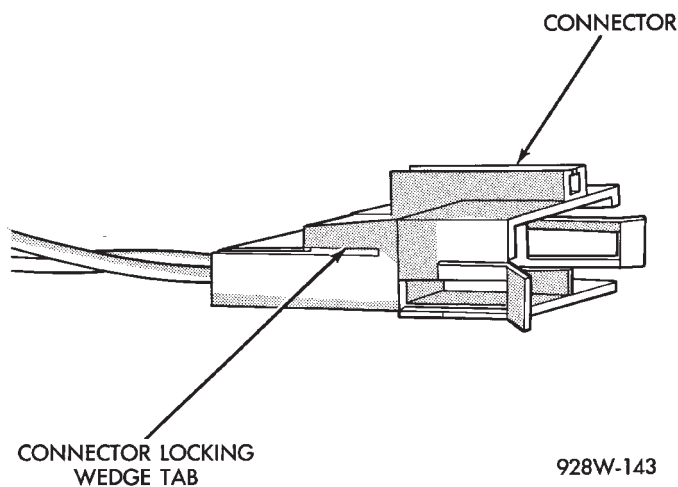

Fig. 21 Connector Locking Wedge Tab (Typical)
- (1) Disconnect battery.
- (2) Disconnect the connector being repaired from its mating half. Remove connector locking wedge, if required (Fig. 21).
(3) Remove connector locking wedge, if required (Fig. 21).